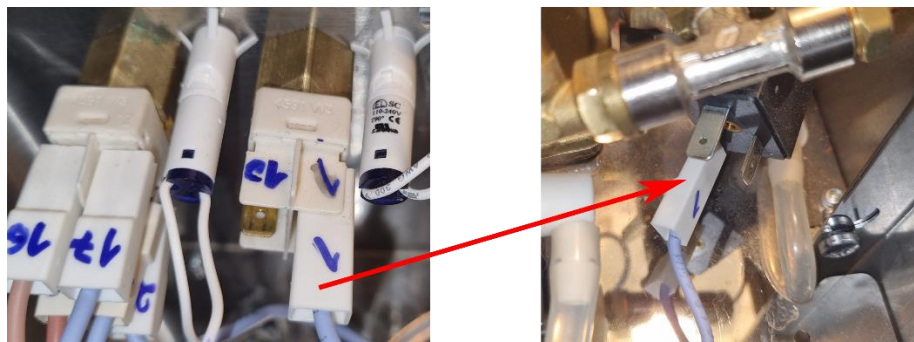

Fig. 2.7
- Unplug the remaining plug from 2 (Steam Btn. right-up) and connect it to Z (3 way Solenoid Valve) (fig. 2.7)